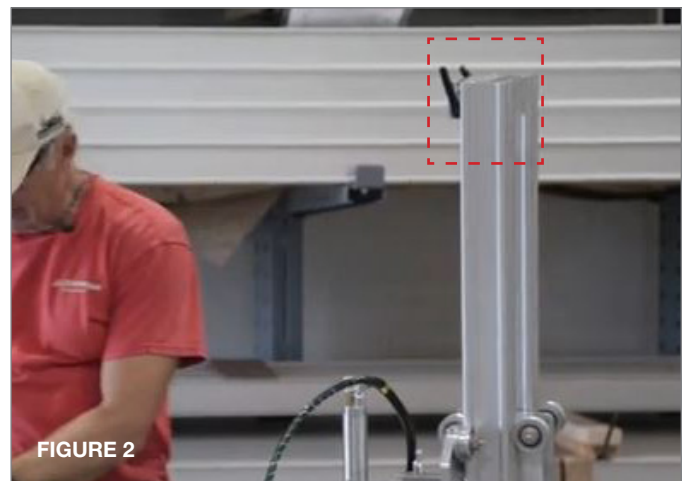

FIGURE 2
2. Install the supplied 1/2" Bolt and Lock Nut as shown in **(Figure 2)**. Insert Quick Release Pins where shown after bolts are tightened and range of motion is tested.
2. Orient the Release Levers so they face away from Carriage Assembly to keep them from being broken off by the carriage during operation. **(Figure 2).**
See Detail **(Figure 2)**